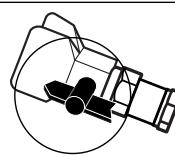

Figure 12 - Tip in Spray Position
15. When pure paint appears from Spray Tip rotate tip to the Spray position. The system is now ready for use (See Figure 12).